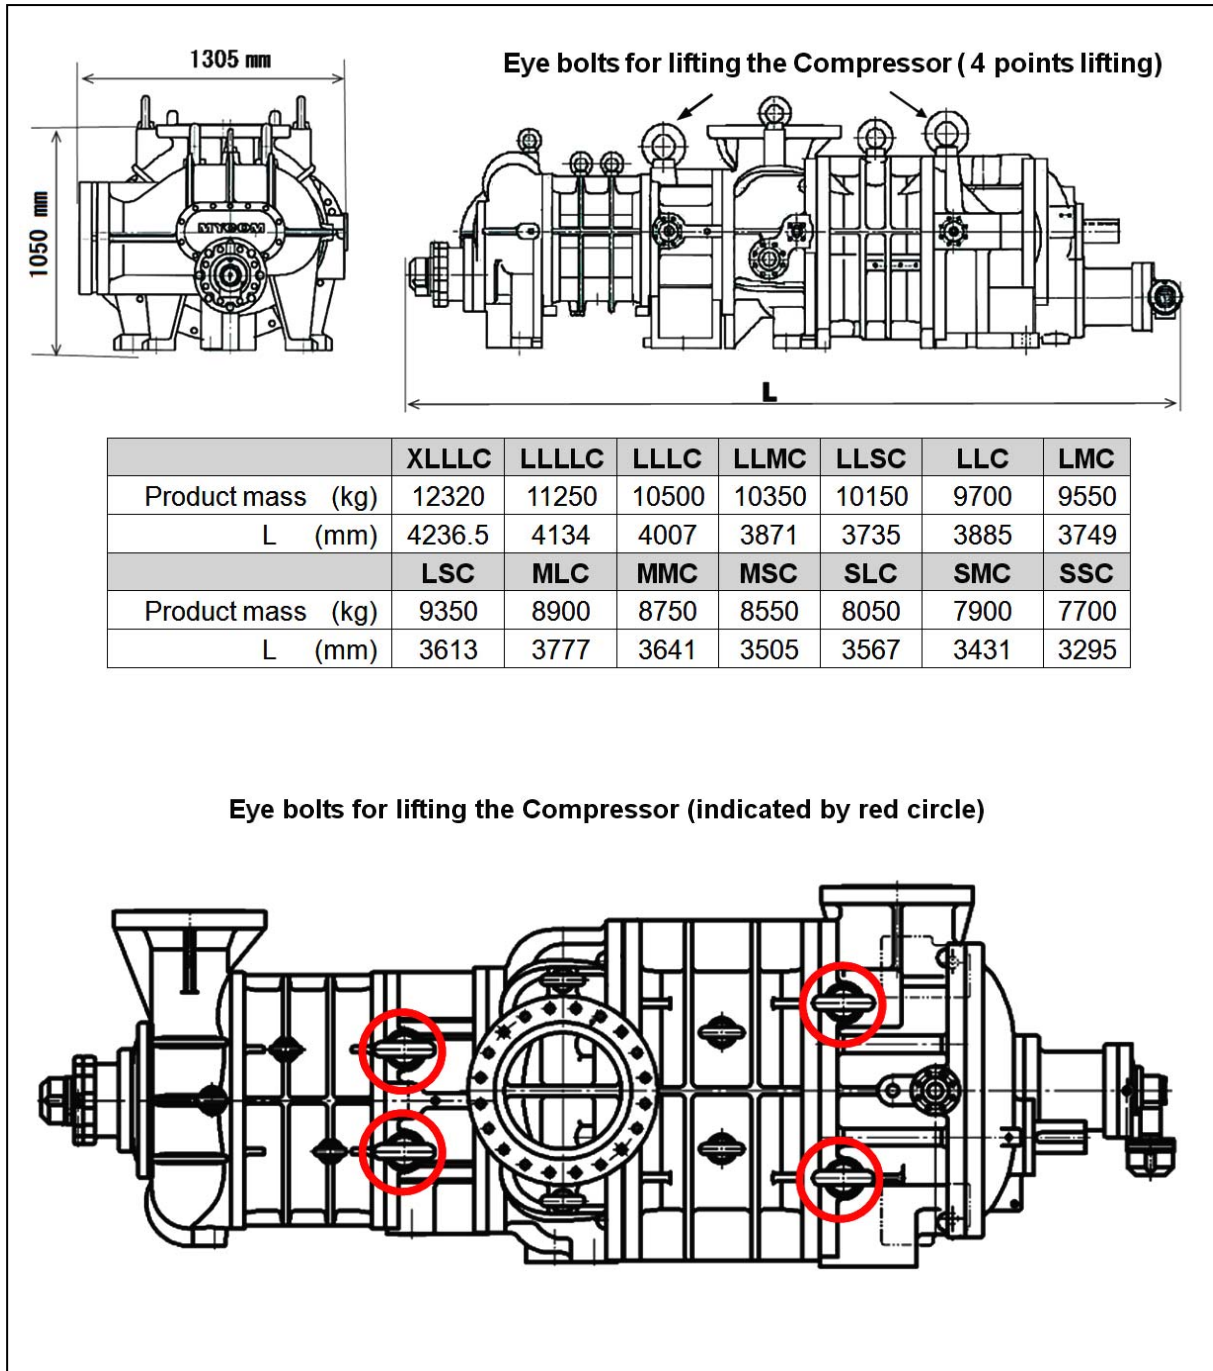

Figure 3-1 Outer Dimensions, Mass and Lifting Position of Compressor
4. To lift the compressor, attach the wire ropes to the appended eye bolts by using appropriate shackles and hooks. Refer to Figure 3-1 in next page.